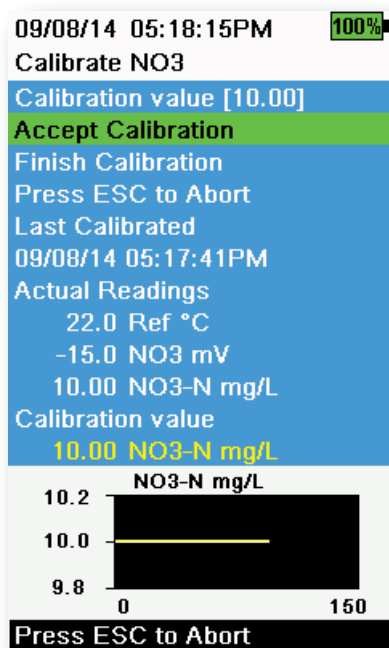

Figure 55 Calibrate ISE
6. Observe the actual measurement readings for stability (white line on graph shows no significant change for 40 seconds), then select **Accept Calibration** (Figure 55). "Ready for cal point 2" will be displayed in the message area.
11. Observe the actual measurement readings for stability (white line on graph shows no significant change for 40 seconds), then select **Accept Calibration** (Figure 55). "Ready for cal point 3" will be displayed in the message area.